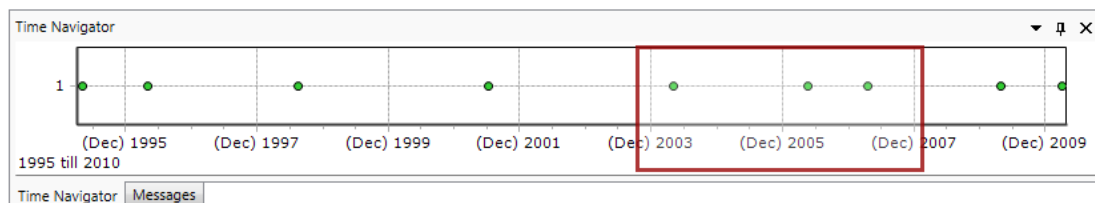

Figure 3.16: Time Navigator with time period display
- ◇ Time period (see Figure 3.16). In this case, the navigator bar has a rectangle indicating start and end time. All data points are displayed that lie between the start and end times.